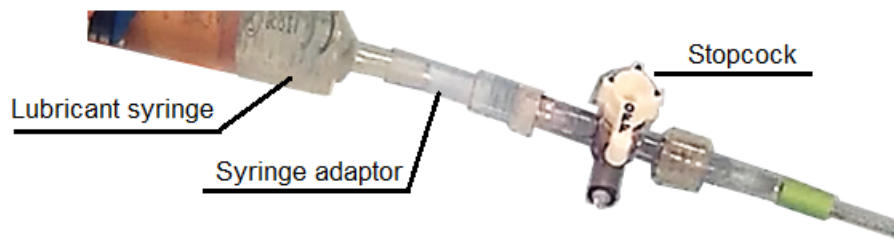

Figure 17: Lubricant syringe with adaptor and stopcock
1. Connect a three-way stopcock and the syringe adapter to both the green and black-labeled channels (*Figure 17*).
2. Connect low-viscosity lubricant syringes to the syringe adapters by pressing the taper on the syringe into the syringe adapter tubing (*Figure 17*).